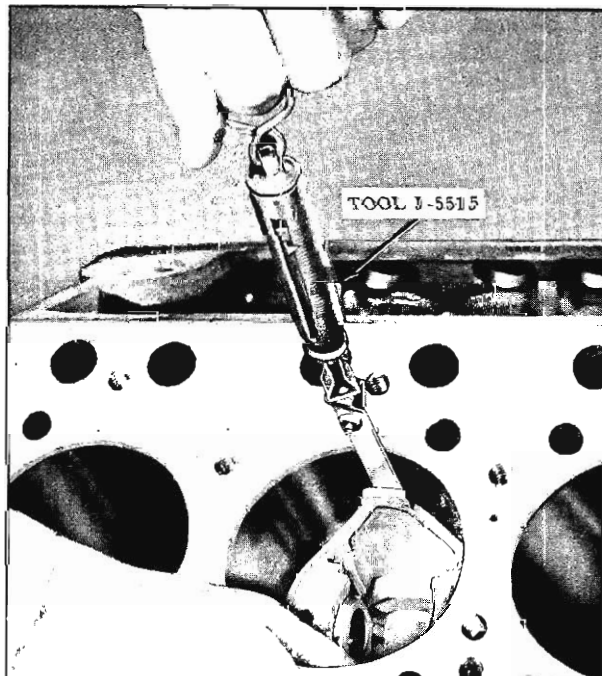

Fig. 3-26 Fitting Piston to Cylinder
1. Place a 1/2" x 12" x .0015" ribbon attached to scale J-5515 against the upper side of the bore, at 90° to the normal piston pin location. (Fig. 3-26)